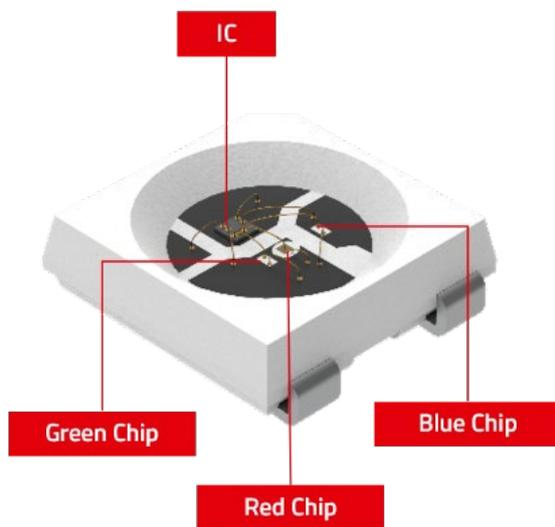

Figure 1: Internal components of an IC LED (PN: 131505093002).
An Integrated Circuit within a Light Emitting Diode (IC LED) is a semiconductor device that combines at least one light-emitting diode (LED) with an integrated circuit (IC) as depicted in Figure 1. The red, green, and blue LED chips are responsible for light emission, while the integrated circuit manages the operational aspects such as: individual LED dimming, color mixing, and communication between the control unit (microcontroller) and the adjacent IC LEDs in the circuit. This combination allows IC LEDs to perform more complex tasks than standard LEDs, making them suitable for a wider range of applications.